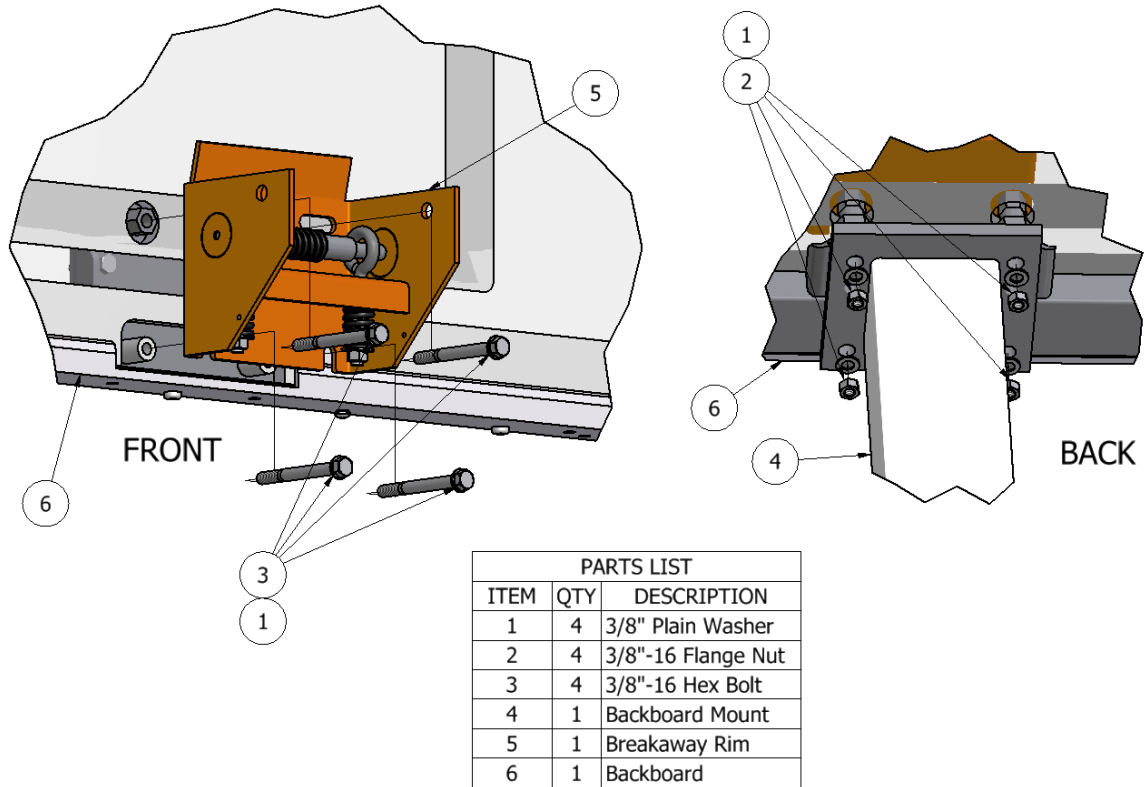

Figure 5-2: Attach rim to backboard.
2. Attach rim to backboard as shown in Figure 5-2.